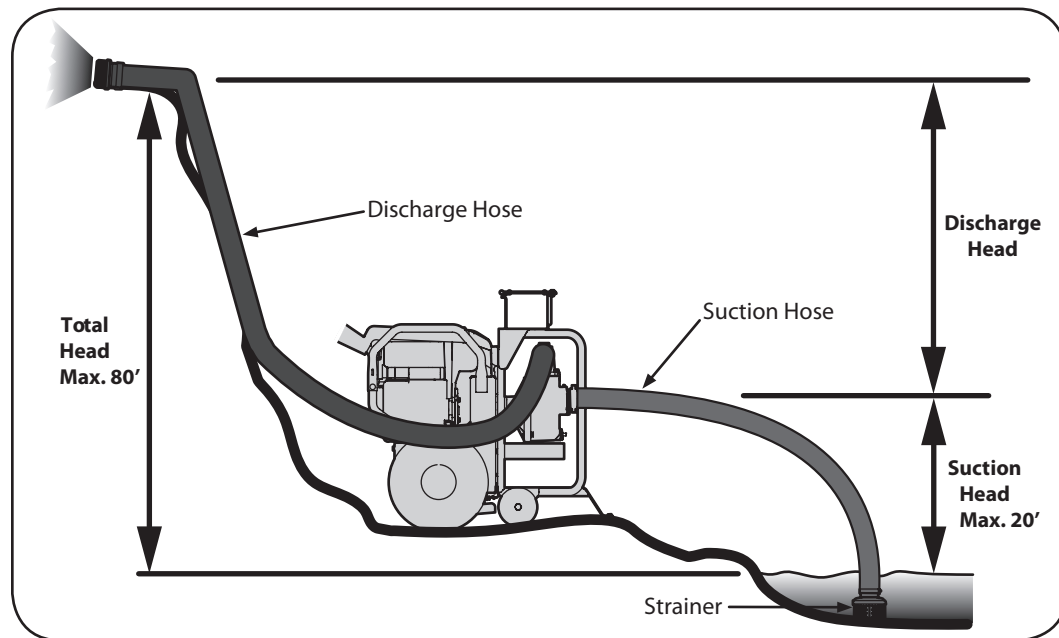

Figure 4-8
2. Insert the suction hose strainer end into the water source you wish to pump water out of. See Figure 4-8.